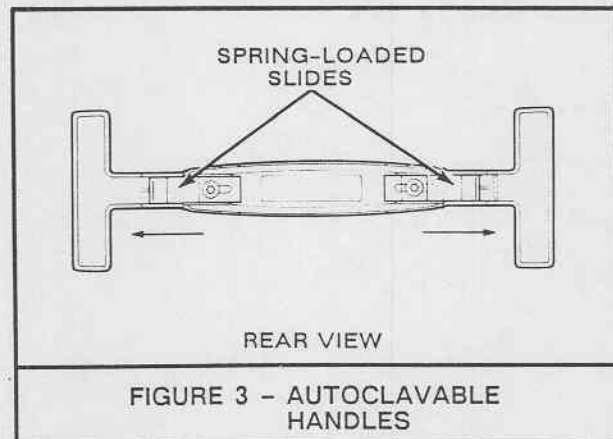

FIGURE 3 - AUTOCLAVABLE HANDLES
**1.06 Autoclavable Handles (Figure 3)**—Each light is packaged with two autoclavable handles made of highly durable plastic. The handles are spring-loaded which makes them easily removed and quickly replaced without the use of a tool. The autoclavable handles were designed to increase effective asepsis in the operatory.
**3.04 Exchanging Autoclavable Handles (Figure 3)** To exchange autoclavable handles, the following procedure should be performed: